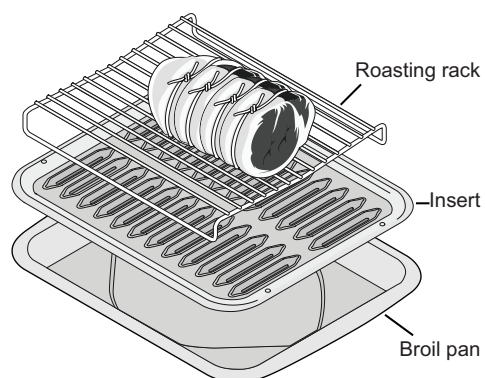

Figure 10: Roast with broil pan and insert and roasting rack
- Position cookware as shown in Figure 10. Allow at least 2-4 inches (5-10 cm) of space between cookware for proper air circulation when using multiple racks.